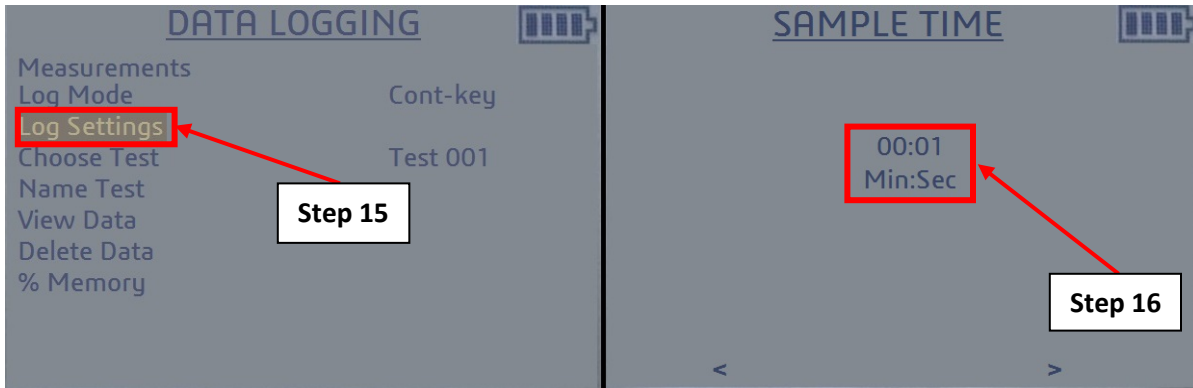

Figure A.10.8: The “Log Settings” option on the “Data Logging” screen is shown highlighted on the left. The “Sample Time” screen is shown on the right.
15. Use the up and down arrows to navigate to the “Log Settings” option (left of Figure A.10.8) and press the back-arrow key, which will take you to the “Sample Time” screen (right of Figure A.10.8).
2. Move the probe around the airflow for 20 seconds. The sampling time was set at 1 second (Figure A.10.8), which means that in 1 second, all of the instantaneous values that were collected by the probe are averaged. This means that in 20 seconds, the TSI 9545 Velocicalc Air Velocity Meter has collected 20 averaged values.